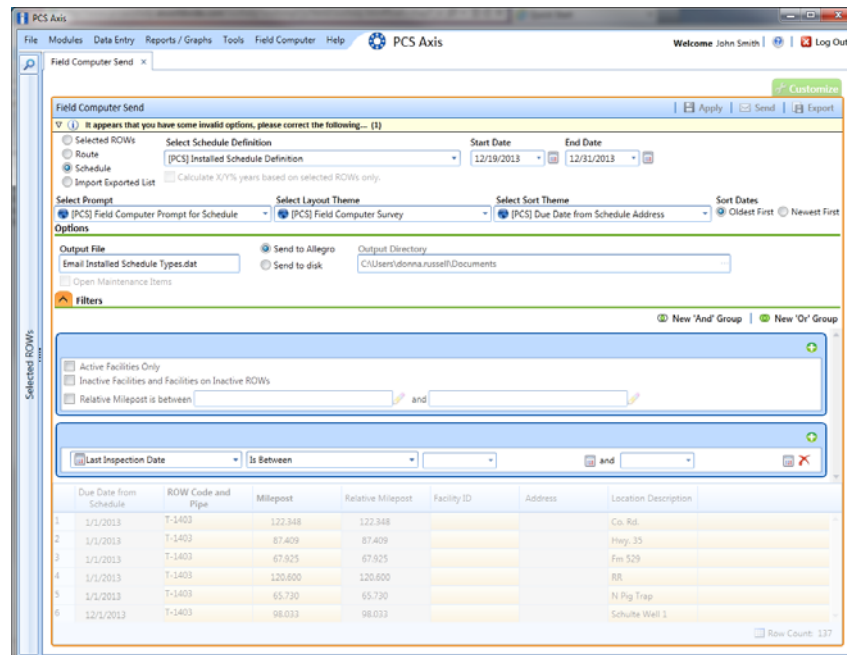

Figure 12-12. New 'And' Filter Group
- 16** To filter records in the grid and in the schedule sent to the Allegro based on a subset of records that meet *all* filter conditions, complete the following steps to add a new AND filter group (Figure 12-12):